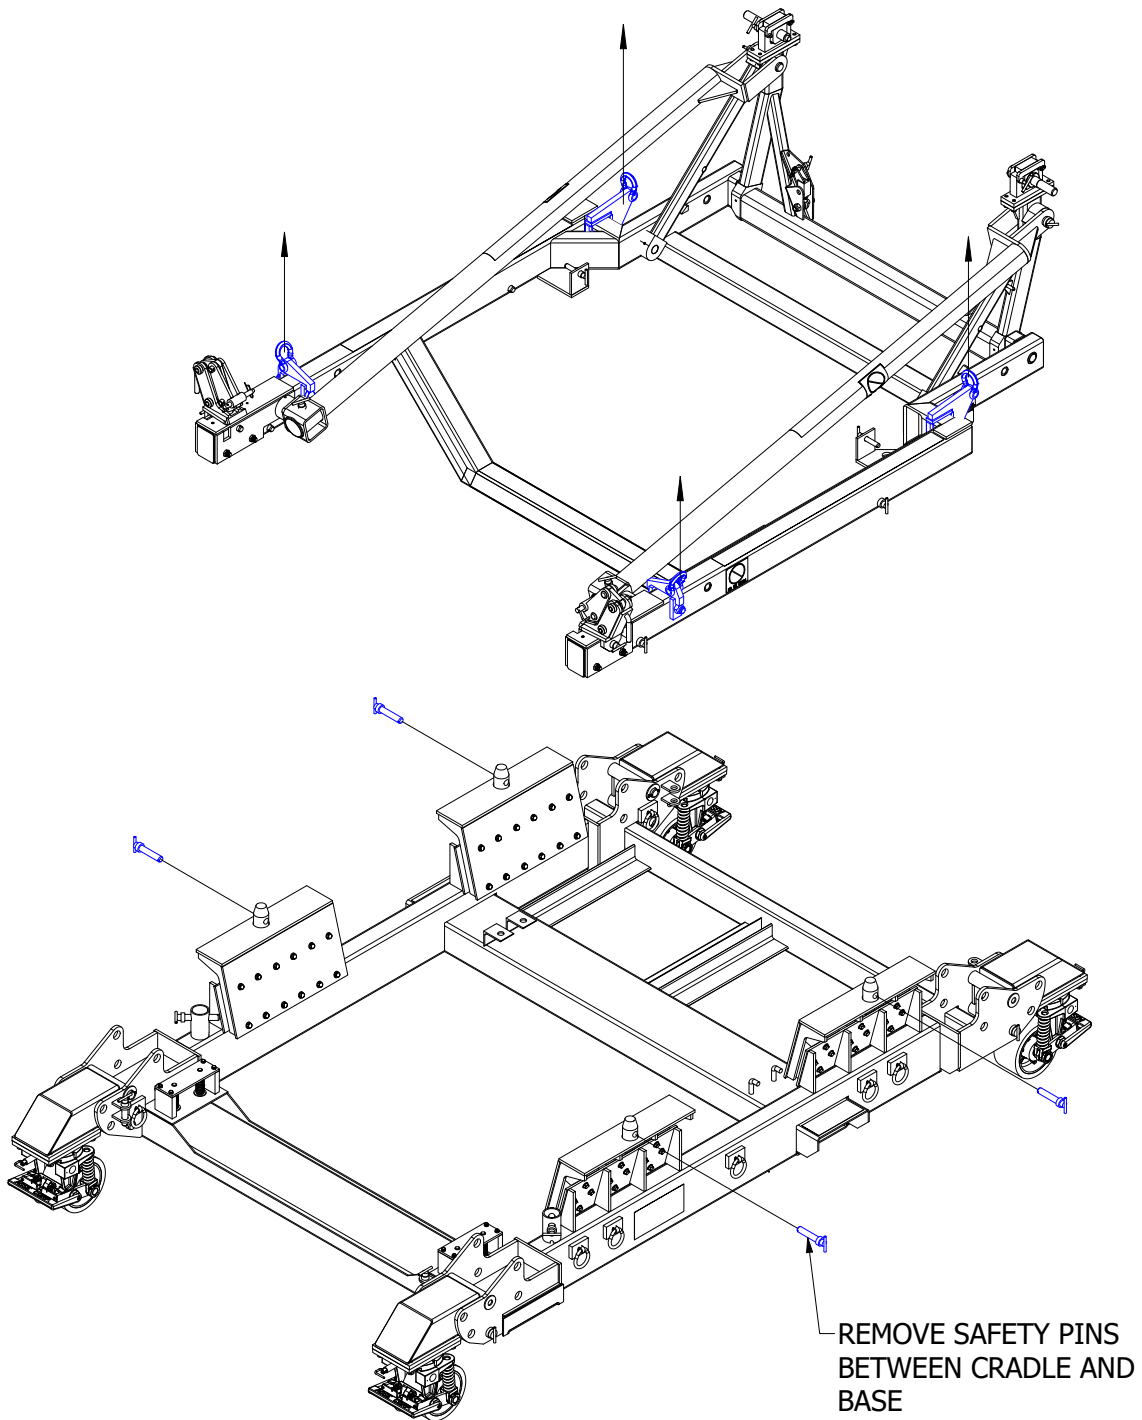

Figure 4.6-2 AM-1928-910 Bootstrap Kit for Airbus, 80C2/80E1 Engine
- 5). For the cradles AM-E1928-156-80C2-A and AM-1928-156-80E1-A, install the AM-1928-910 bootstrap kits as shown in Figure 4.6-2.